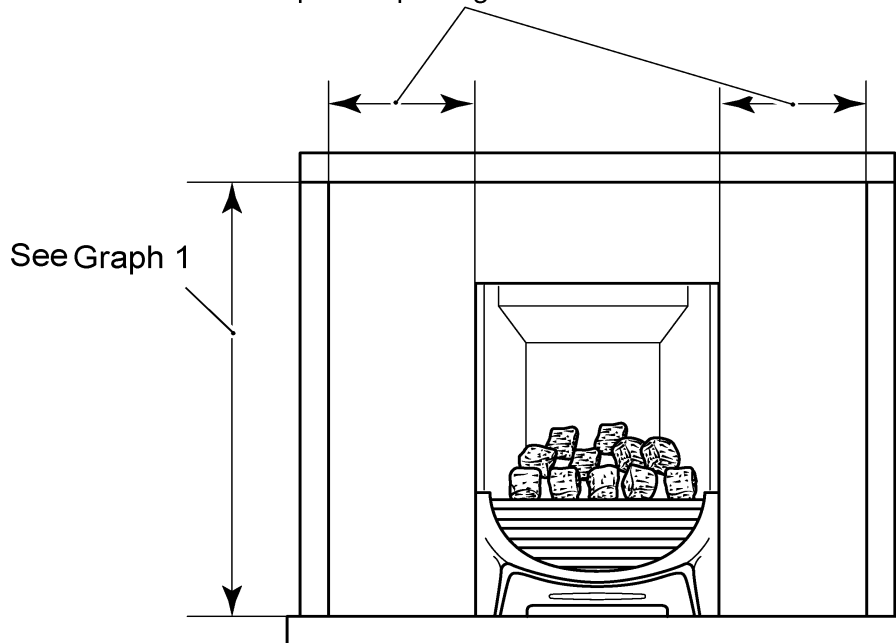

Figure 1. Appliance dimensions.
- **Do** provide a minimum side clearance as detailed in figure 1. Please bear this in mind if ever you are considering altering the room.